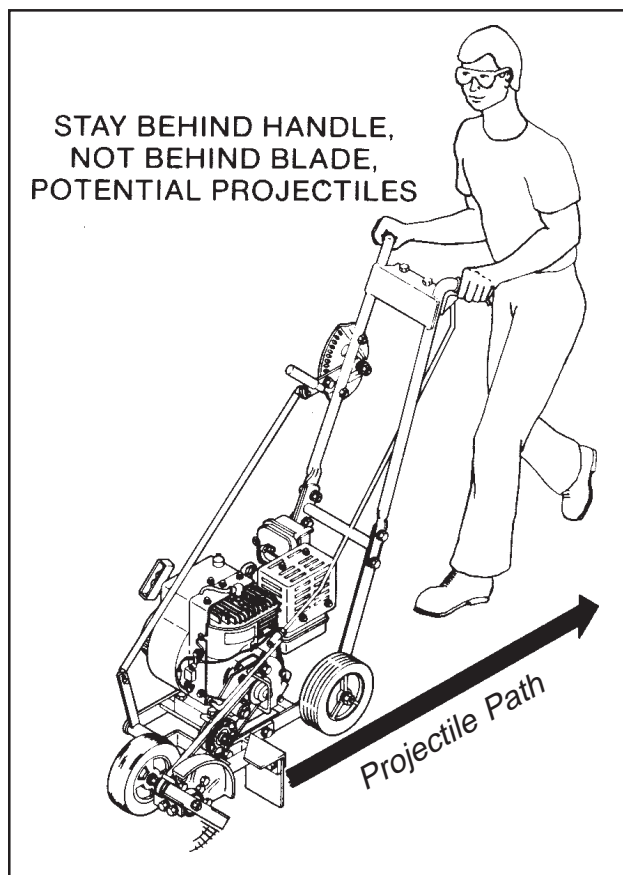

Figure 1, Proper Operating Position
4. Always stay behind the handles. Stones and other items thrown by the blade can cause serious injury (See Figure 1, page 2).